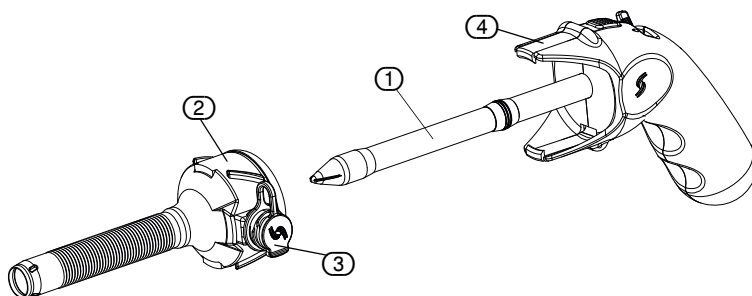
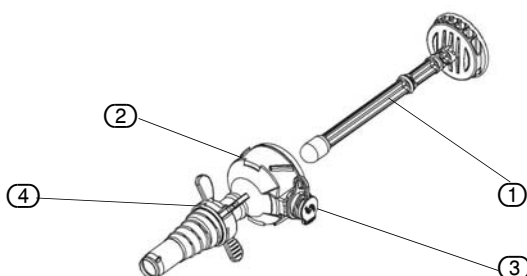
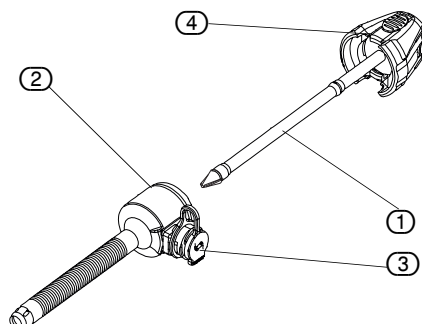

Fig. 6-1 AirSeal® Optical Obturator
Fig. 6-2 AirSeal® Blunt Obturator with Suture Tie Down
Fig. 6-3 AirSeal® Access Port and Low Profile Obturator with Bladeless Optical Tip
- ① Bladeless optical tip obturator
- ② Cannula
- ③ Manifold plug
- ④ Cannula latch
The AirSeal® Optical Obturator and Cannula System is composed of a sterile single patient use instrument consisting of an obturator ① and a cannula ② (see Fig. 6-1, Fig. 6-2, and Fig. 6-3). The obturator may be used with or without visualization for primary and secondary insertions.
2. The obturator ① and the cannula ② (see Fig. 6-1, Fig. 6-2, and Fig. 6-3) are packaged together.